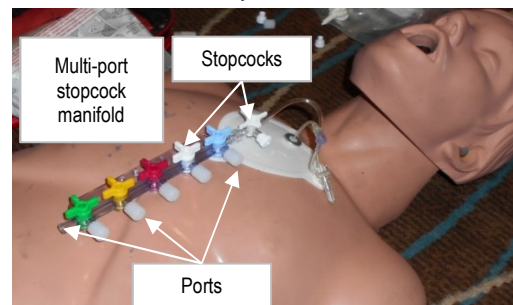

Figure 5.18 Stopcock manifold
- Connect the short tubing assembly that comes with the FAST1 to a short IV extension tube and a multi-port stopcock manifold (Figure 5.18). High volume meds are hung on a stand (Figure 5.19) and delivered via IV lines connected to the manifold. Low volume meds are drawn into syringes and delivered via a port on the manifold.